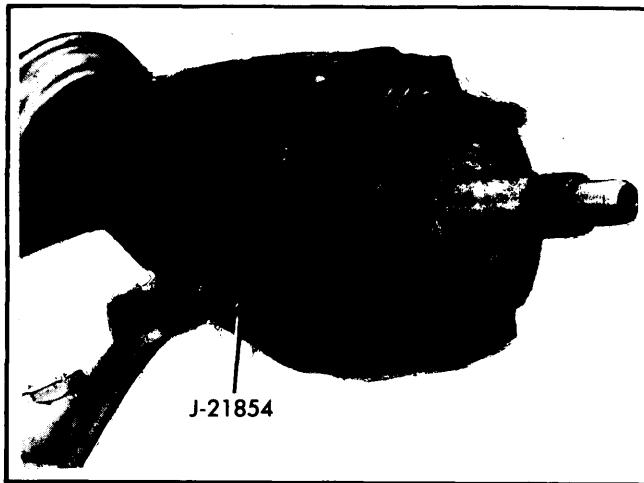

Fig. 8 Removing Bearing Housing Pivot Pins
3) Remove steering shaft bearing lock nut using suitable socket (J-22599). Remove upper bearing race seat and race. Remove two bearing housing pivot pins using suitable tool (J-21854). See Fig. 8.